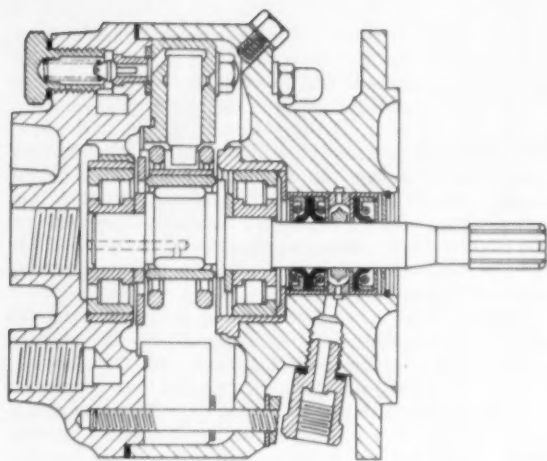

Fig. 7. Arrangement of the Lockheed Mark 7, seven-cylinder radial plunger pump
**Pump.** A Lockheed Mark 7, seven-cylinder radial plunger pump, Fig. 7, is employed. It is a constant delivery type unit, the plungers of which are actuated by an eccentric shaft. The pump can be driven in either direction without alteration. A relief valve is not incorporated in the design. The rated maximum working pressure is 3,000 lb/in2, at which pressure the minimum delivery is 3½ gal/min at 4,000 r.p.m. Under these conditions, the unit absorbs 8.2 h.p. The manufacturers state that the pump will tolerate over-speed running at 5,200 r.p.m. for five minutes at a delivery pressure of 3,000 lb/in2.